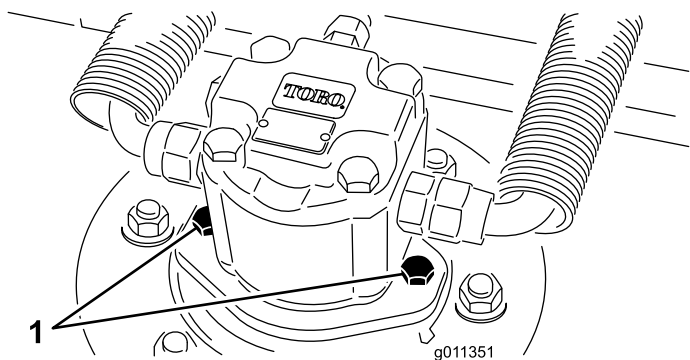

Figure 79
2. Disconnect and remove the hydraulic motor from the deck (Figure 79). Cover the top of the spindle to prevent contamination.
4. Install the hydraulic motor to the deck (Figure 79). Make sure that the O-ring is in position and not damaged.